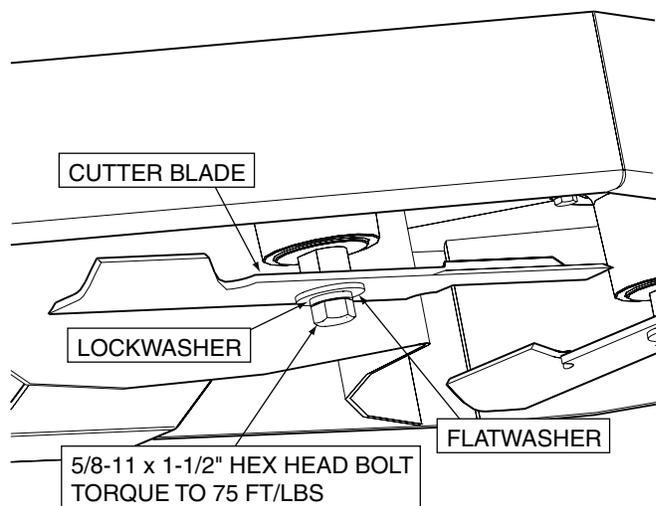

Figure 7-10. Blade Replacement
3. Secure the cutter blades to prevent them from rotating, (use the optional Blade Buddy tool P/N 9212, to assist in securing the cutter blades), remove the blade attaching bolt. Remove the cutter blade, bolt, lockwasher and flatwasher from the spindle shaft. See Figure 7-10.
5. Install the cutter blade onto the cutter spindle shaft. Secure the blades from rotating and torque to 75 ft/lbs. See Figure 7-10.